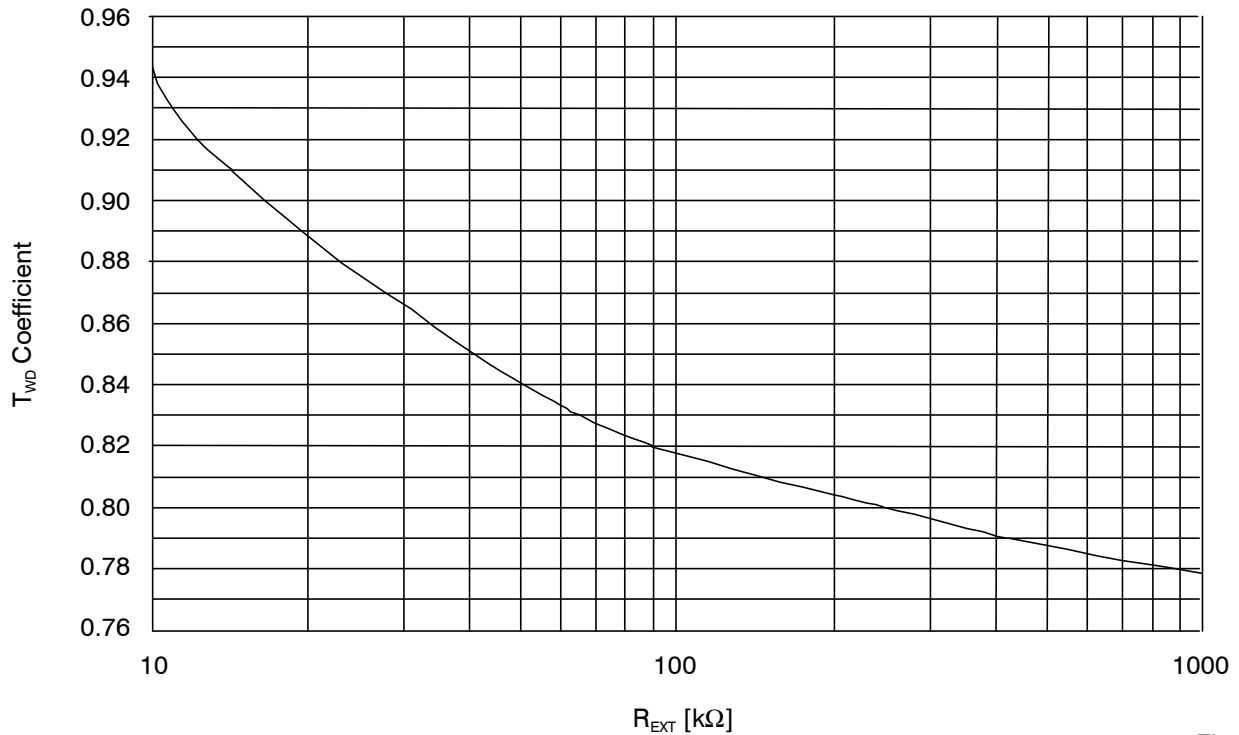
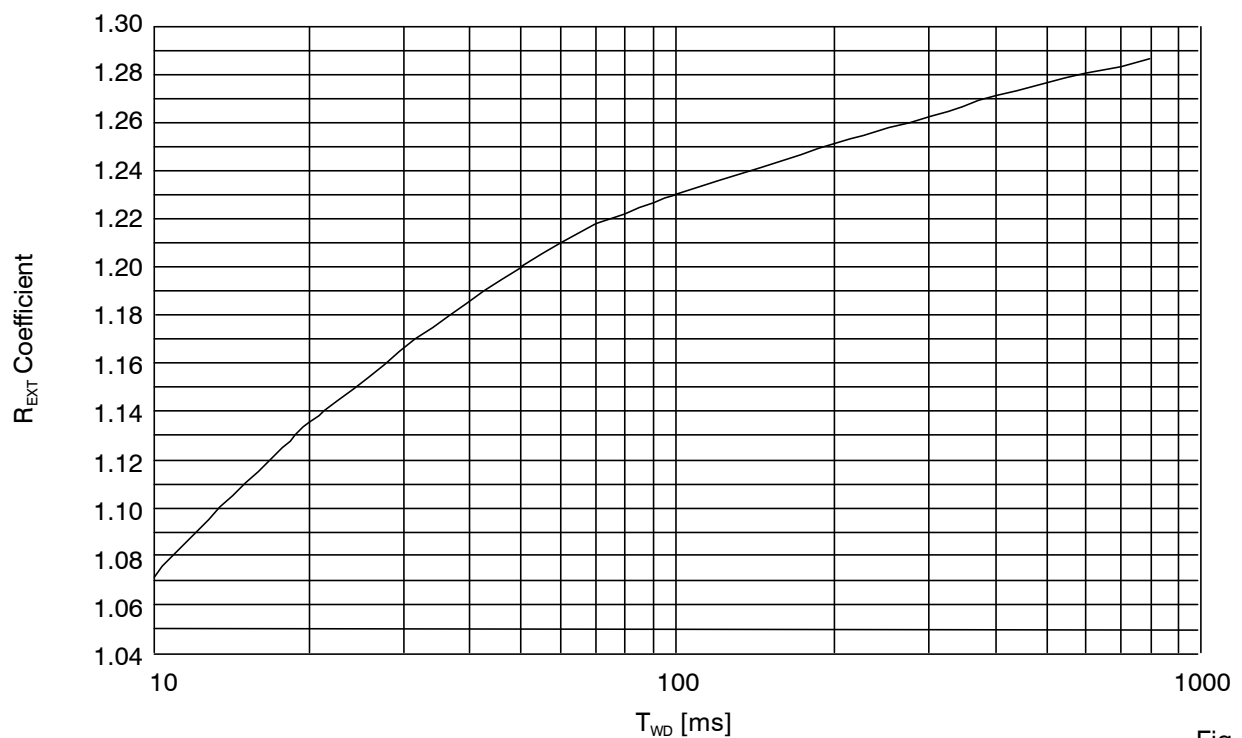

Fig. 19
Fig. 20
Related to curves (Fig. 10 to Fig. 20), especially Fig. 19 and Fig. 20, the relation between T_{WD} and R_{EXT} could easily be defined. Let us take an example describing the variations due to production and temperature:
2. Related to Fig. 20, the coefficient (T_{WD} to R_{EXT}) is 1.155 where R_{EXT} is in k Ω and T_{WD} in ms.